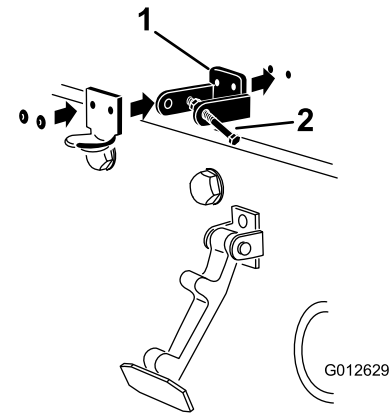

Figure 13
3. While aligning the mounting holes, position the CE lock bracket and the hood latch bracket onto the hood. The lock bracket must be against the hood (Figure 13). Do not remove bolt and nut assembly from the lock bracket arm.
5. Rivet the brackets and the washers to the hood (Figure 13).